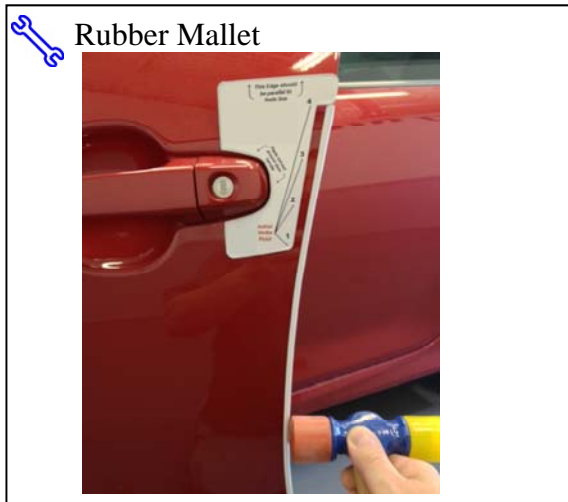

Fig. 2-7
- (4) Continue progressively tapping the channel onto the door edge, proceeding down the entire length of the DEG. Use your other hand to steady and guide the DEG as you go (Fig. 2-7).